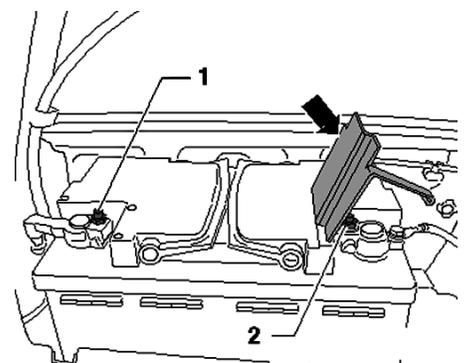

Fig. 2 Battery cable removal
5. Loosen and remove battery ground cable (1) from battery ground terminal, **Fig. 2**.
6. Open pole cover (arrow) over battery positive cable, **Fig. 2**.
7. Loosen and remove battery positive cable (2) from battery positive terminal, **Fig. 2**.
4. Install battery positive cable (2) to battery positive terminal, and **torque** to 53 inch lbs., **Fig. 2**.
5. Install battery ground cable (1) to battery ground terminal, and **torque** to 53 inch lbs., **Fig. 2**.